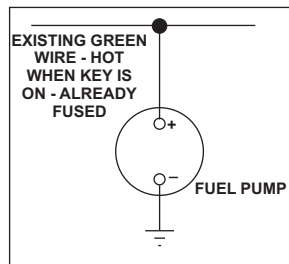

FIGURE 1
**Figure 1** shows the most basic installation, and is fully adequate if your pump draws less than four or five amps. There is no need to add an additional fuse if you connect to an existing green wire, as the green wires are already fused.